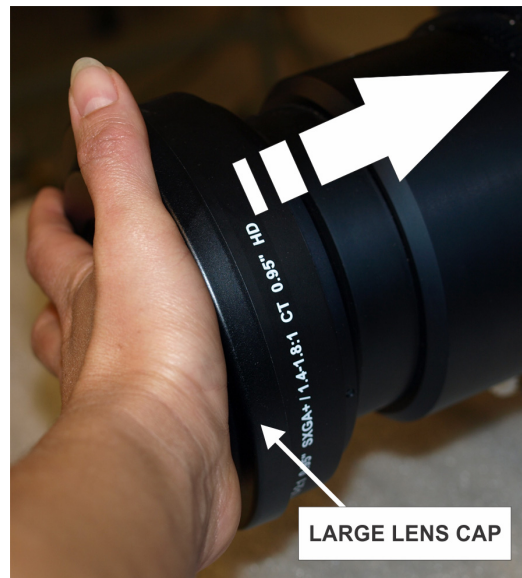

FIGURE 2-2
- Align the lens interface plate with the lens mount. Align the lens electrical connector with the mating connector on the lens mount. Fully insert the assembly straight into the lens mount opening without turning. Press using your hand as shown in *Figure 2-2*. **NOTE:** *When installing the lens, ensure that the lens is not inserted at an angle, as this can cause damage.*